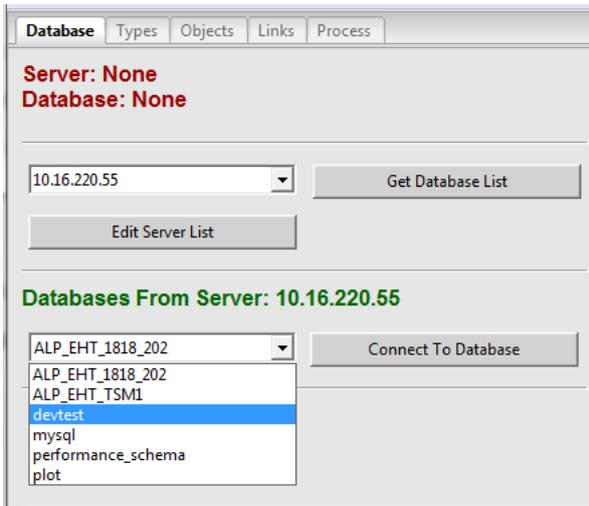

Figure 29: Plant Editor - Connect To Database
- b. Select the database that you want to connect to from the second dropdown list and click "Connect To Database" (Figure 29).